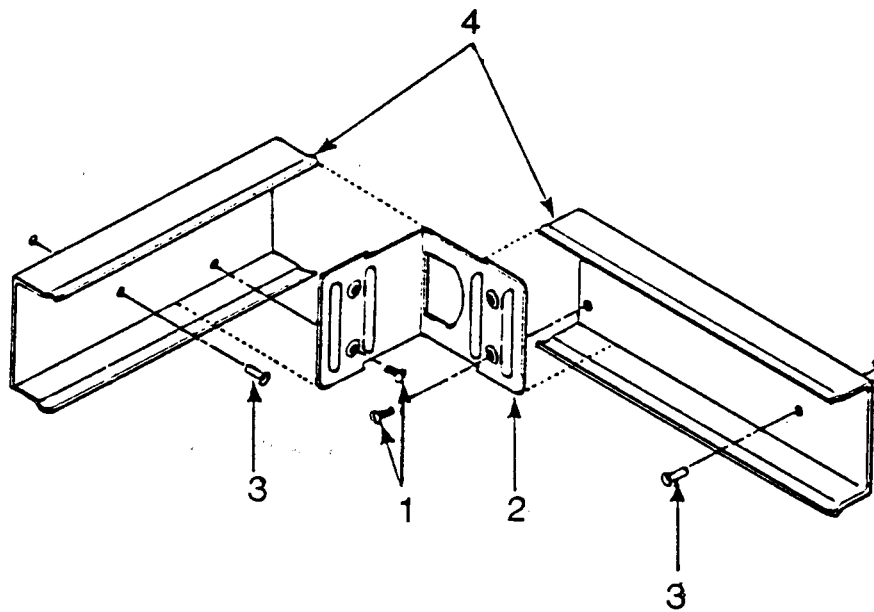

Figure 5-8. Right Angle Corner Conduit
- (2) Replace Right Angle Corner Conduit. (See Figure 5-8.)
- (a) Remove screws (1) and remove right angle bracket (2).
- (b) Chisel off rivets (3) and remove channels (4).